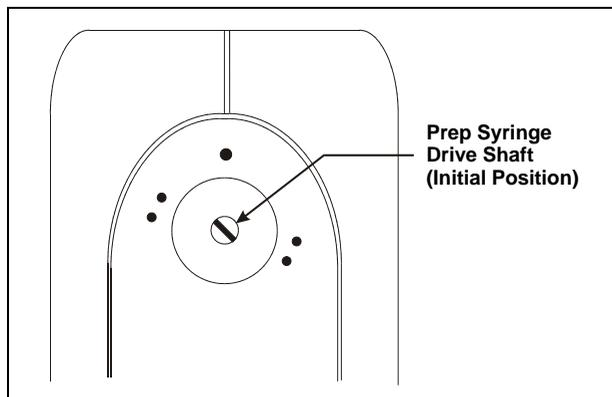

Figure 5-23. Prep Syringe Drive Shaft Initial Position
3. When the valve is removed, the syringe drive shaft is visible. When the syringe is in the initial position (the position selected when the valve was removed), the slot in the drive shaft should be in the 11 o'clock position (see Figure 5-23).